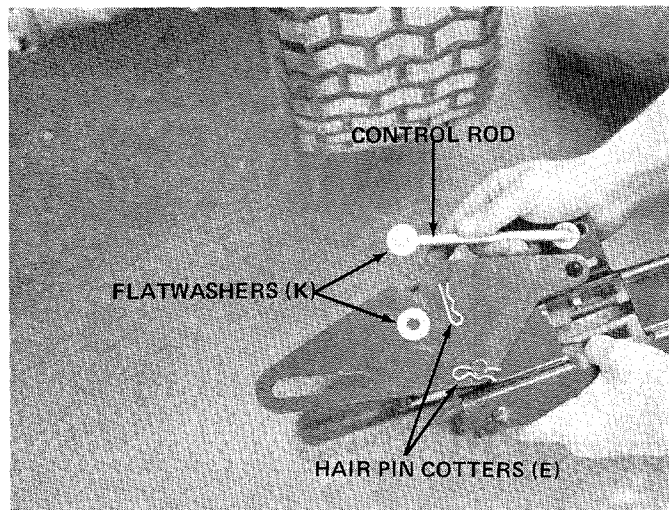

FIGURE 15
13. Assemble the other linkage bracket (AG) to the other side of idler assembly (AJ). Secure with hair pin cotter (E). Place flat washer (K) over control rod. Next, place control rod up through linkage bracket. Secure with another flat washer (K) and hair pin cotter (E). See figure 15.